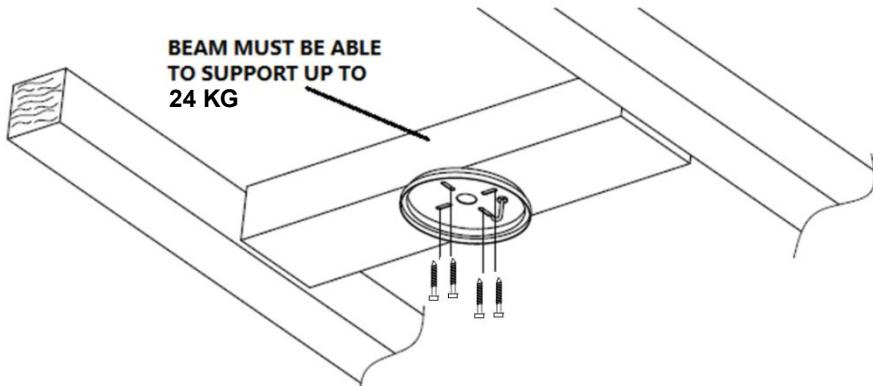

Fig. 2
- Install the hanging bracket to the ceiling joist or structure that is capable of carrying a load of at least 24kg, with the 4 long screws provided. Ensure at least 30mm of the screw is threaded into the support. (Fig. 2)